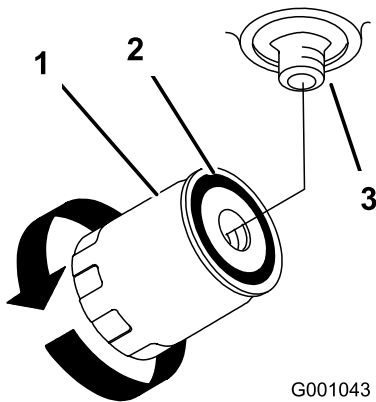

Figure 58
4. Apply a thin coat hydro fluid to the rubber gasket on the replacement filter (Figure 58).
6. Fill the hydraulic tank with hydraulic fluid until the fluid overflows the filter and then turn the oil filter clockwise until the rubber gasket contacts the filter adapter, then tighten the filter an additional 1/2 turn (Figure 58).